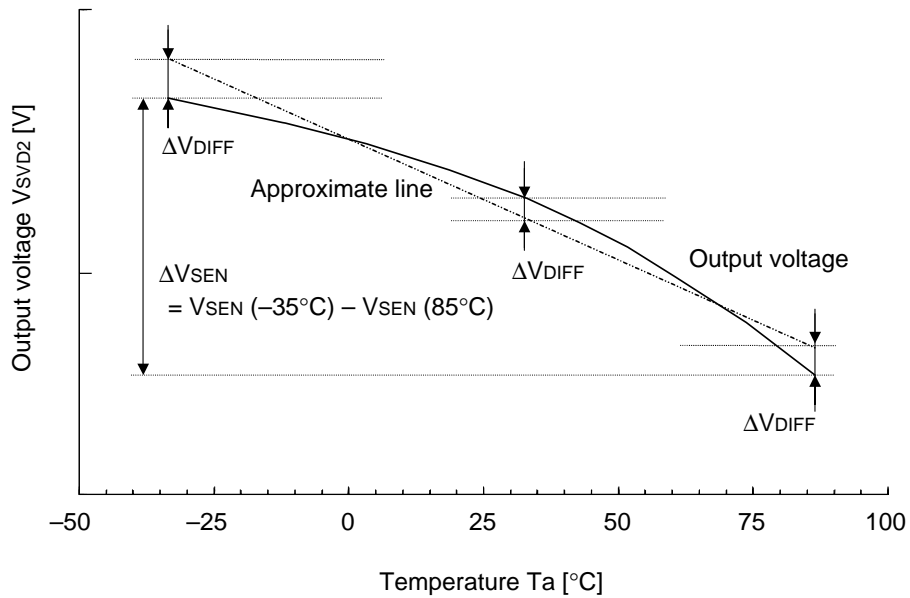

Fig. 9.6
- \*2 Inclination of approximate straight line of Typ. output voltage between -35°C and 80°C . See Fig. 9.6.
- \*3 Maximum deviation between output voltage curve and approximate straight line. See Fig. 9.6.